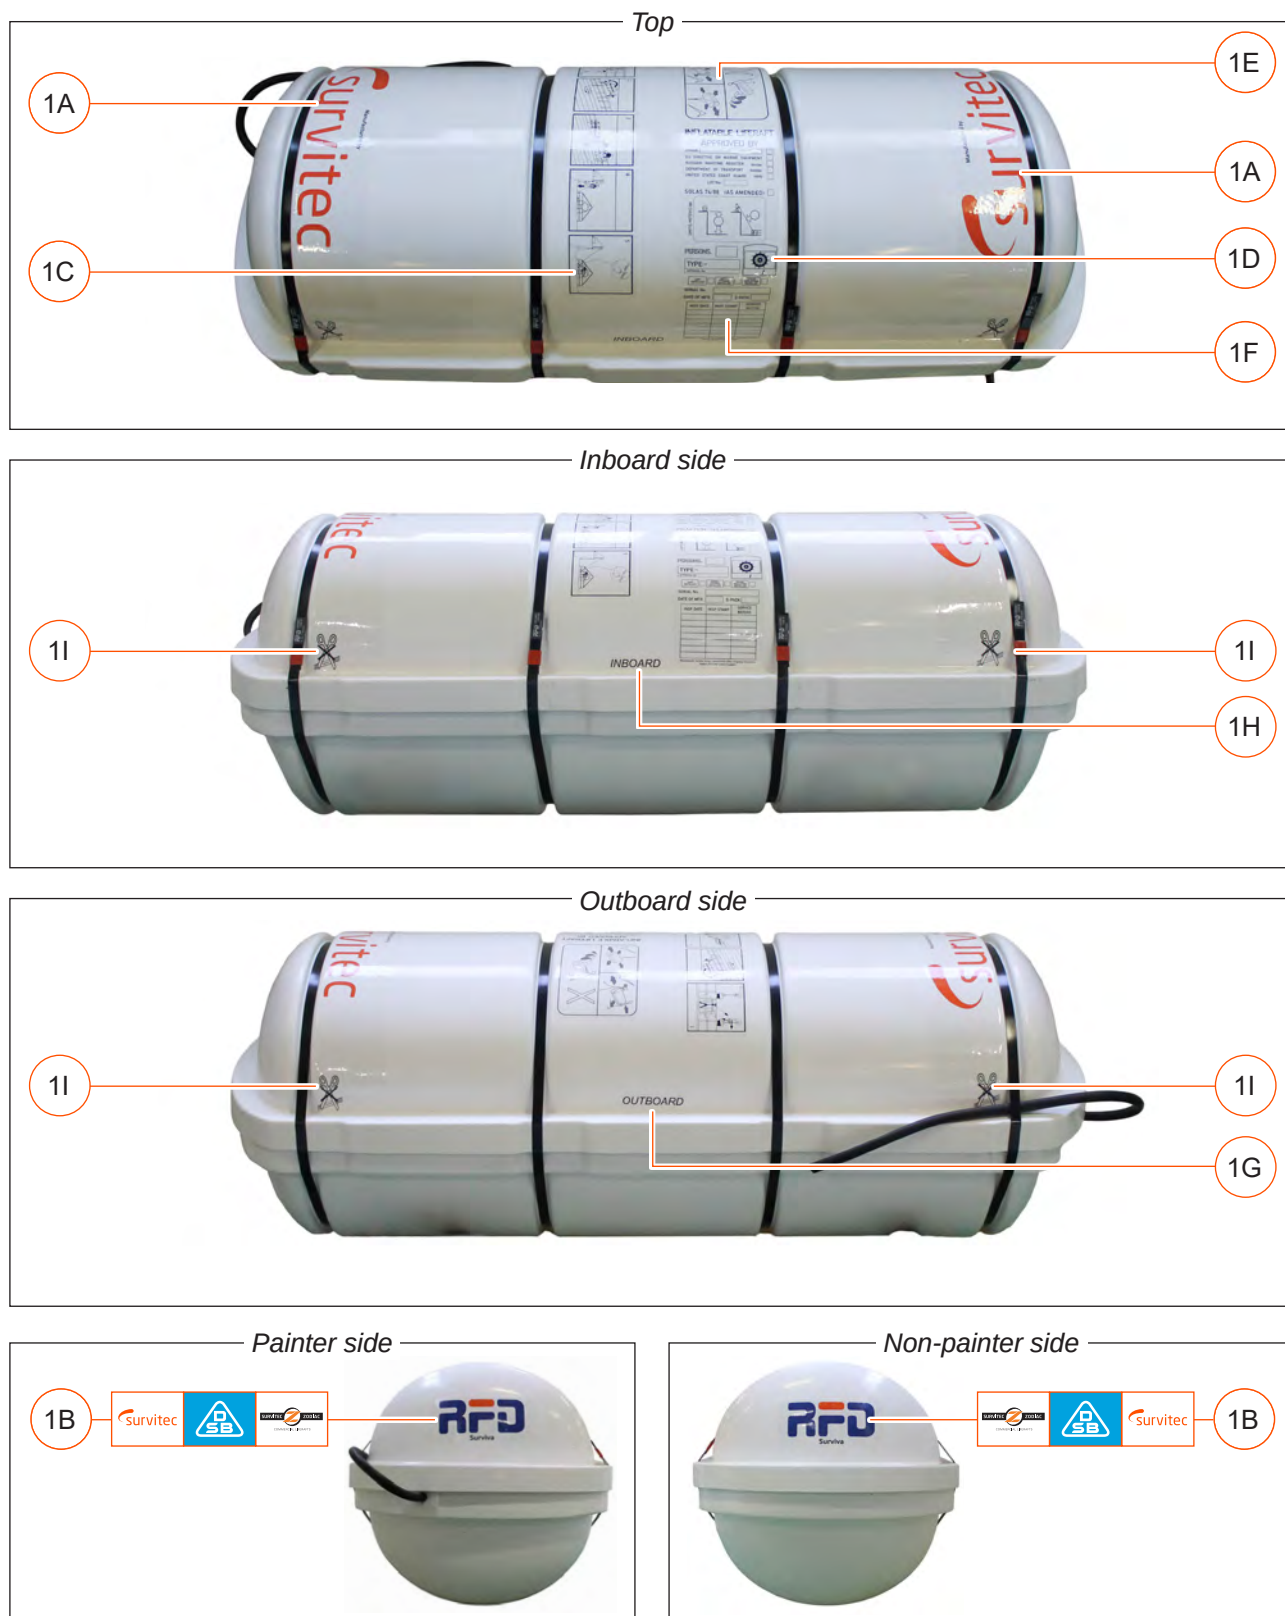

Figure 6
- Mk 10 size 3 and 4. Refer to **Figure 6** for label positions.